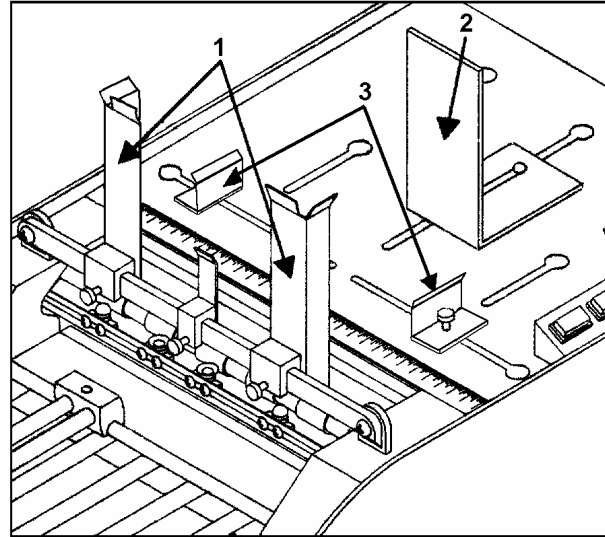

Figure 8
5. Attach the front envelope guides [#1, Fig. 8] approximately in the middle of the feeder as shown.
7. Attach the rear envelope guide [#2, Fig. 8] using the slot in the feeder floor nearest the rear end of the envelope, then adjust the anti skewing guides to the sides of the envelope [#3, Fig. 8].